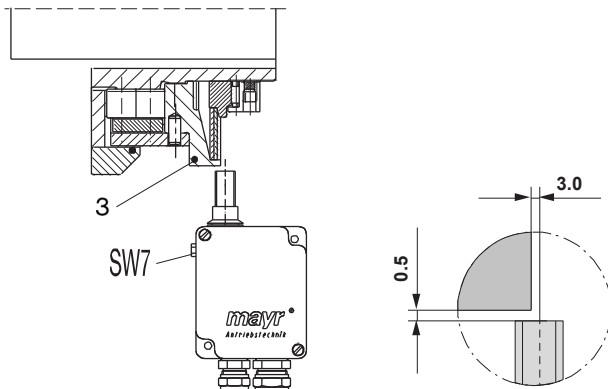
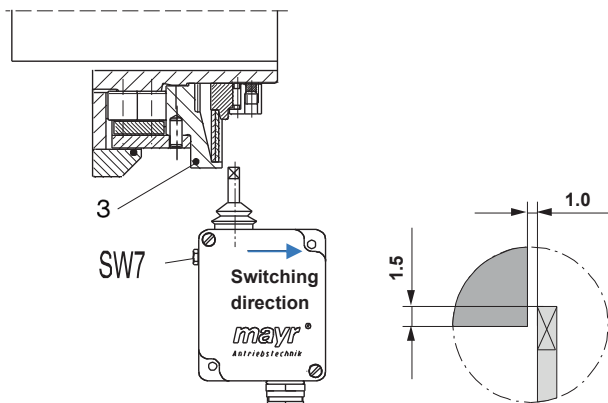

Fig. 10: Contactless limit switch
Fig. 11: Mechanical limit switch
The switching direction arrow on the housing lid of the mechanical limit switch faces in the direction of the adjusting nut (7) or in the control element (3) stroke direction, Fig. 10. Adjust the switch distances for the contactless and mechanical limit switch acc. Fig. 10 or Fig. 11. The distance of the control element (3) to the switching point can be adjusted using a hexagon head screw, wrench opening 7 (Figs. 10 and 11).